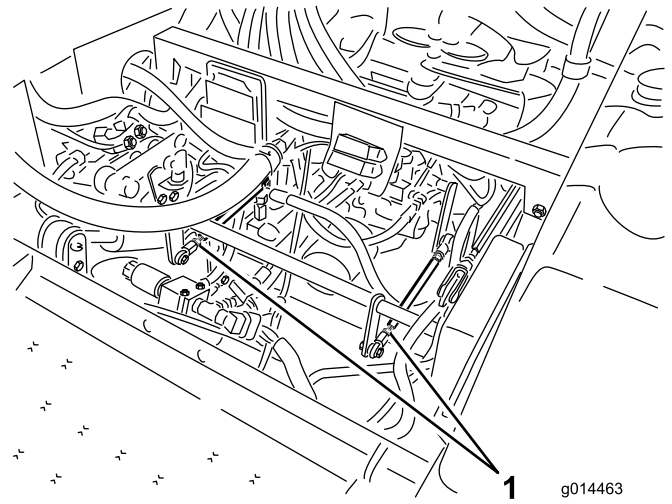

Figure 50
- If the left rear tire is rotating, loosen the jam nuts on the left side transmission control rod (Figure 50).